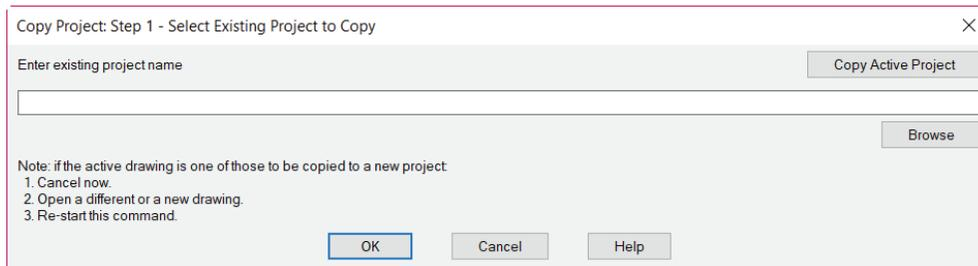

Figure 2-71 The Copy Project Step 1 - Select Existing Project to Copy dialog box
- Choose the **Copy** tool from the **Project Tools** panel of the **Project** tab; the **Copy Project: Step 1 - Select Existing Project to Copy** dialog box is displayed, as shown in Figure 2-71.